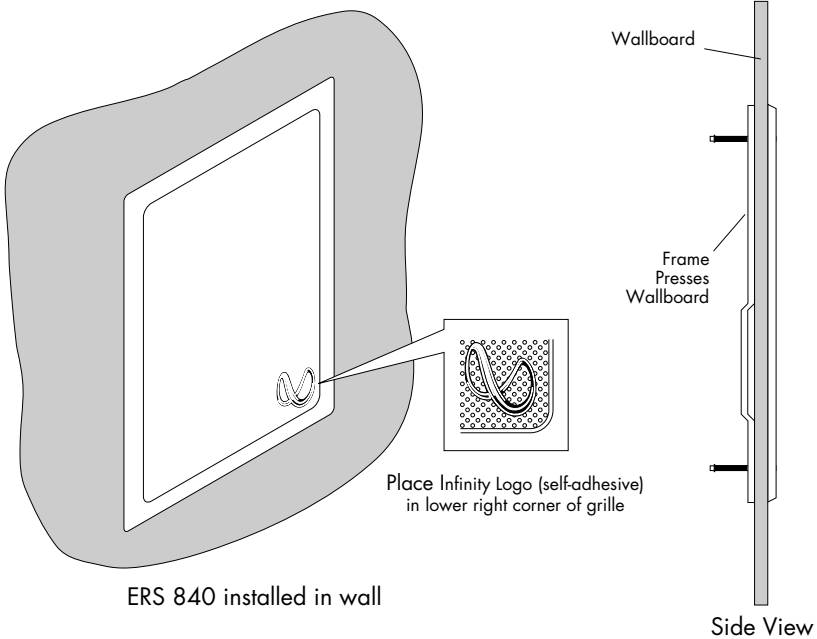

Figure 4. The mounting frame sandwiches the speaker baffle to the wallboard. The ERS 840 is shown here.
- Before mounting the speakers, make sure the attached mounting frame is in the extended position (see Figure 2 on page 4). For each speaker, insert the bottom of the mounting frame (and cable) into its respective cavity. Insert the top of the mounting frame into the opening and slide the baffle up to fit the cutout. Equally tighten each of the four Phillips screws (already inserted) to sandwich the mounting frame against the wallboard, as shown in Figure 4 on page 6.
2. When finished, gently insert the grilles into the slots on the speaker frames. Place an Infinity Logo (self-adhesive) on each grille (see Figure 4 on page 6). For the ERS 360, place the logo along the grille's circular edge.